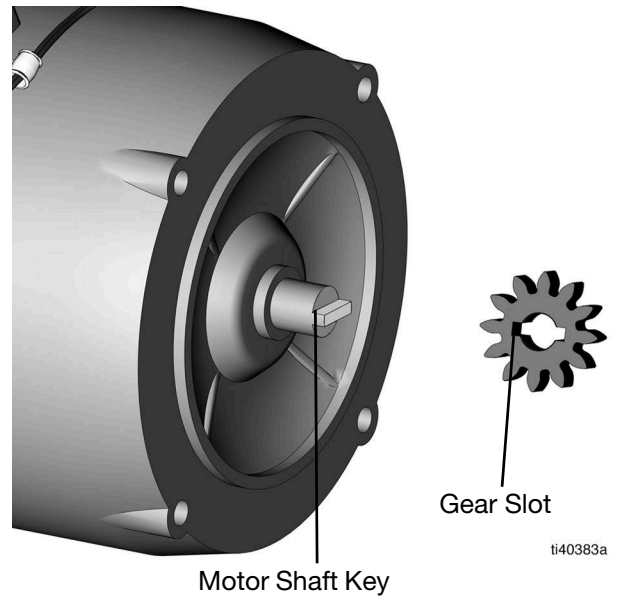

FIG. 14
5. Put the pump housing assembly onto the motor (9). The motor shaft key should match the slot on the gear on the inside cover (FIG. 14).